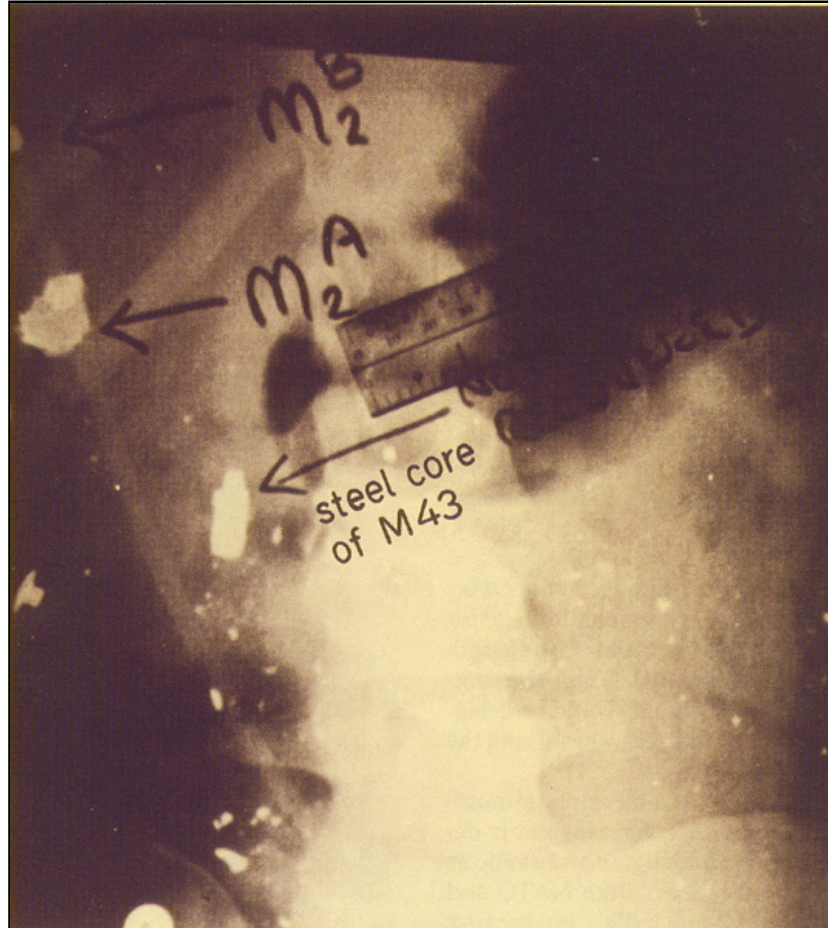

Fig. 1-1. The large metal cylinder shown in this abdominal roentgenogram is the soft steel core of a 7.62 x 39-mm round from a Kalashnikova assault rifle.
- Knowledgeable medical officers will be better able to treat the casualties who are their patients. For example, surgeons who know that wounds made by bullets from high-velocity rifles frequently do not contain massive soft-tissue destruction may be less likely to debride excessively. Similarly, surgeons who know that bullets of a certain design tend to fragment in tissue will be alert to the probable need for extensive surgical exploration. An elementary knowledge of the design and construction of weapons may be useful in unexpected ways as well. For example, an American soldier was thought to have been deliberately shot by one of his own men during a firefight in Vietnam, but the presence of the radiopaque cylinder (typical of the steel core of a Russian-made M43 bullet fired from the Kalashnikova assault rifle) on his roentgenogram indicated that the wound resulted from enemy action (Figure 1-1).